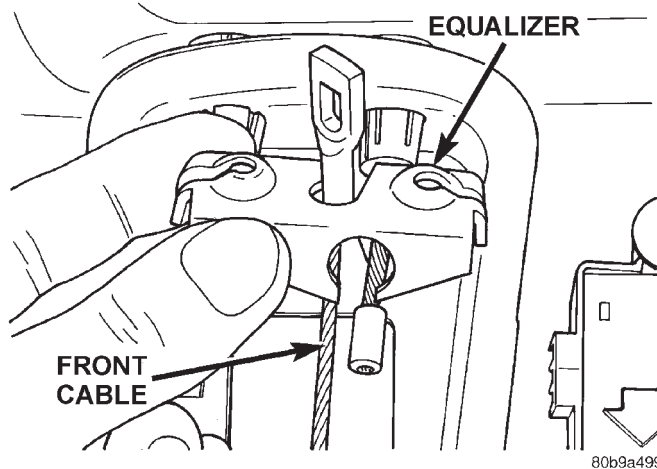

Fig. 49 Cable Equalizer
- (5) Disengage front cable end from the equalizer (Fig. 49).
- (6) Disengage front cable end from the parking brake lever.
- (7) Remove the front carpet, refer to Group 23 Body.